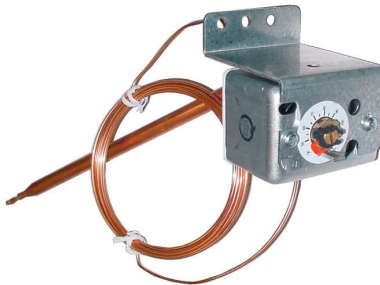

Figure 15. Unit-Mounted Ductstat
- **Ductstat with capillary tubing (option AG3):** The unit-mounted ductstat (see Figure 15) has an adjustable range of 0°F to 100°F (−17.8°C to 37.8°C) with a fixed differential of 3°F (1.7°C). The sensor is factory-set at 70°F (21.1°C). Due to different CFM settings and outside air temperatures, the average downstream outlet temperature may not match the ductstat setting exactly. After the installation is complete, adjust the setpoint of the ductstat to achieve the desired average outlet air temperature.